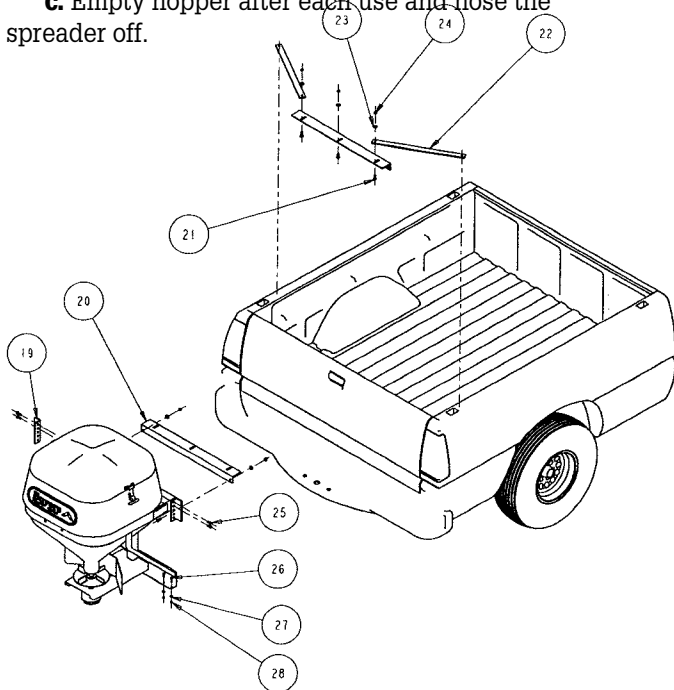
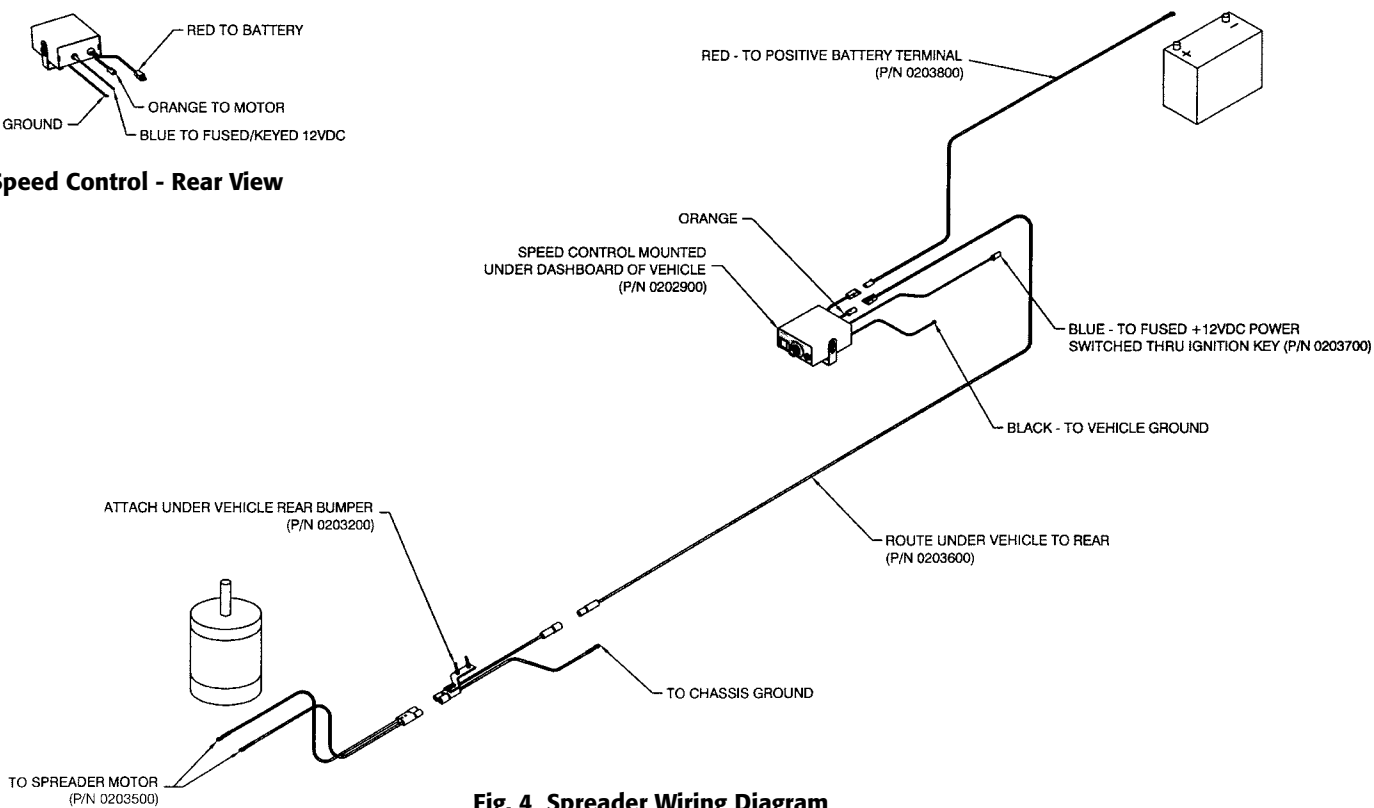

Fig. 1 Mounting
Fig. 4 Spreader Wiring Diagram
1. Assemble and install angles and braces. Refer to Fig. 1.
b. Refer to Fig. 1 and assemble angles and braces (19, 20, and 22) as shown. Do not tighten any bolts yet.
2. Install spreader assembly. Refer to Fig. 1.
a. Position spreader assembly on rear step bumper and align mounting adaptor (19) with holes in angle (20). Make certain frame uprights are vertical, then adjust to stop against spreader frame. Drill holes in mounting adaptor (19). Fasten frame to angle as shown.
3. Electrical installation. Refer to Fig. 4.